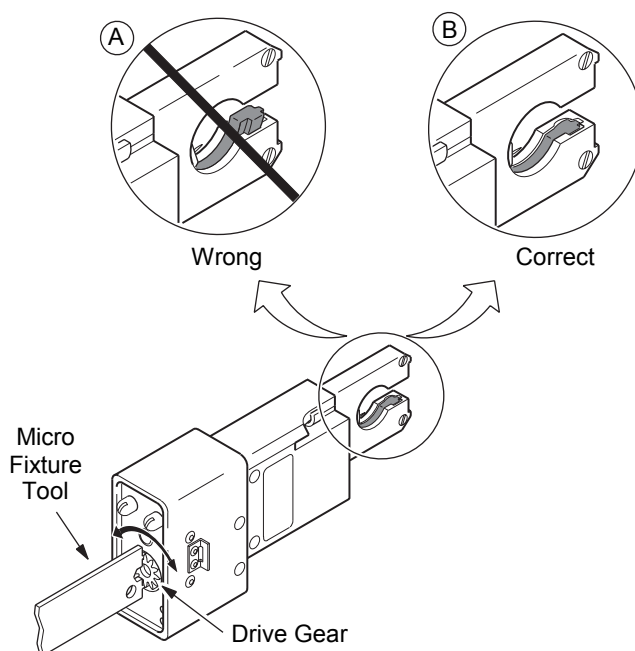
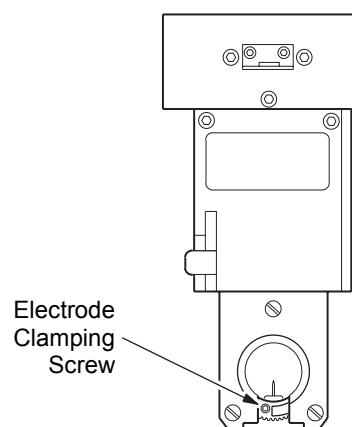

Figure 4 Rotor Manual Adjustment
Figure 8 Electrode Clamping Screw Location
1. Using the micro fixture tool, turn the weld head drive gear on the base of the micro weld head to align the rotor opening to the weld head housing opening. See Figure 4(A) and Figure 4(B), showing views of the rotor misaligned and in proper alignment.
3. Manually turn the rotor drive gear, shown in Figure 4, until the electrode clamping screw is exposed. See Figure 8.